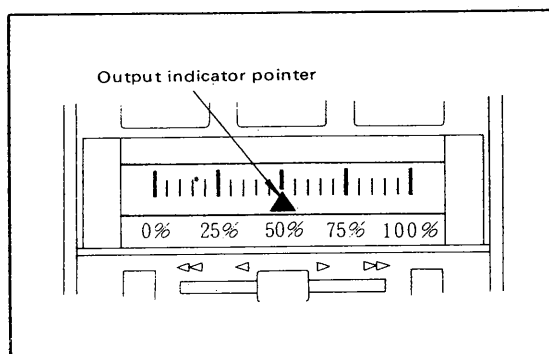

Figure 6-2-3. Output Indicator Center Scale Mark.
- (2) Make sure that the output indicating pointer is just on the thick center scale mark. The tolerance is  $\pm 2.5\%$  (Equivalent to 1/2 of a scale division.) (See Figure 6-2-3.)